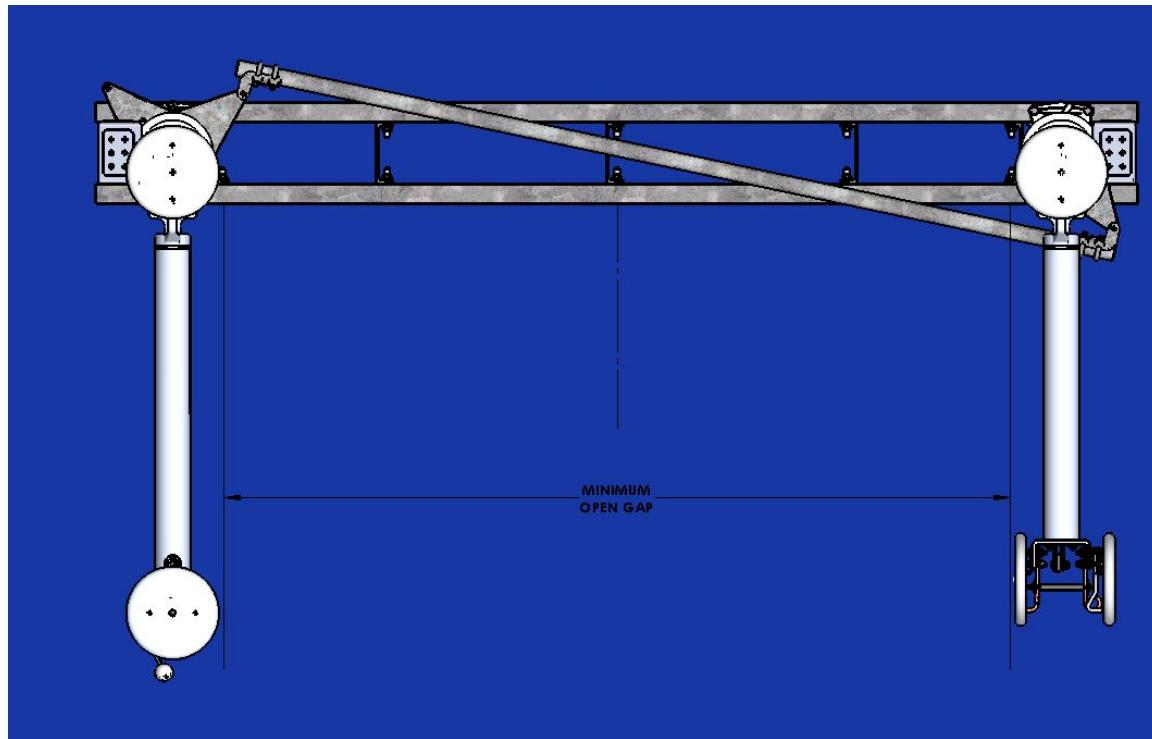

Figure 22: Switch – Fully Open Position (Top View)
4.2. Open the disconnect switch with the operator. The switch is in the fully open position when both blades are approximately 90° to the switch base. Refer to Figure 22.